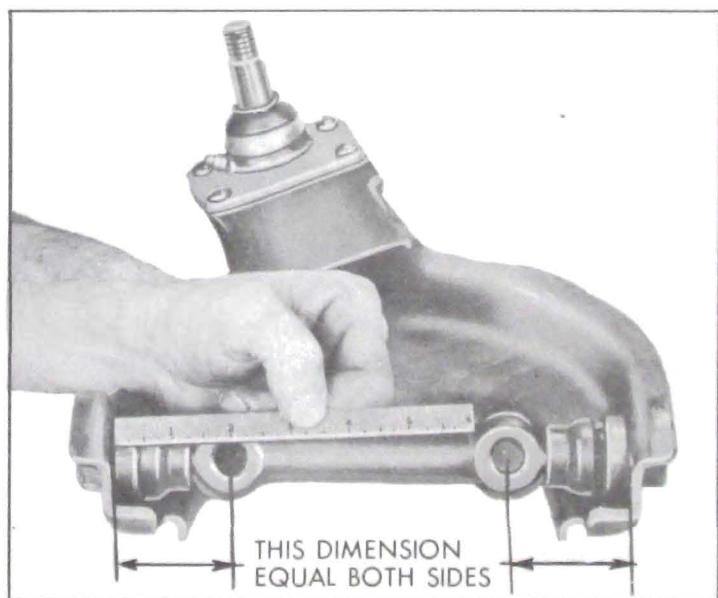

Figure 7-12—Upper Control Arm Shaft Position
8. Rotate shaft to make distance between shaft bolt holes and arm equal both sides as nearly as possible. See Figure 7-12.